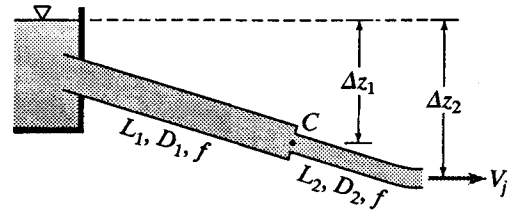

Figure P8.92
- 8.93 A pipeline 300 m long discharges freely at a point 50 m lower than the water surface at intake (Fig. P8.92). The pipe intake projects into the reservoir. The first 200 m is of 350 mm diameter, and the remaining 100 m is of 250 mm diameter. (a) Find the rate of discharge, assuming $f = 0.06$. If the junction point C of the two sizes of pipe is 40 m below the intake water surface level, find the pressure head (b) just upstream of C and (c) just downstream of C. Assume a sudden contraction at C.